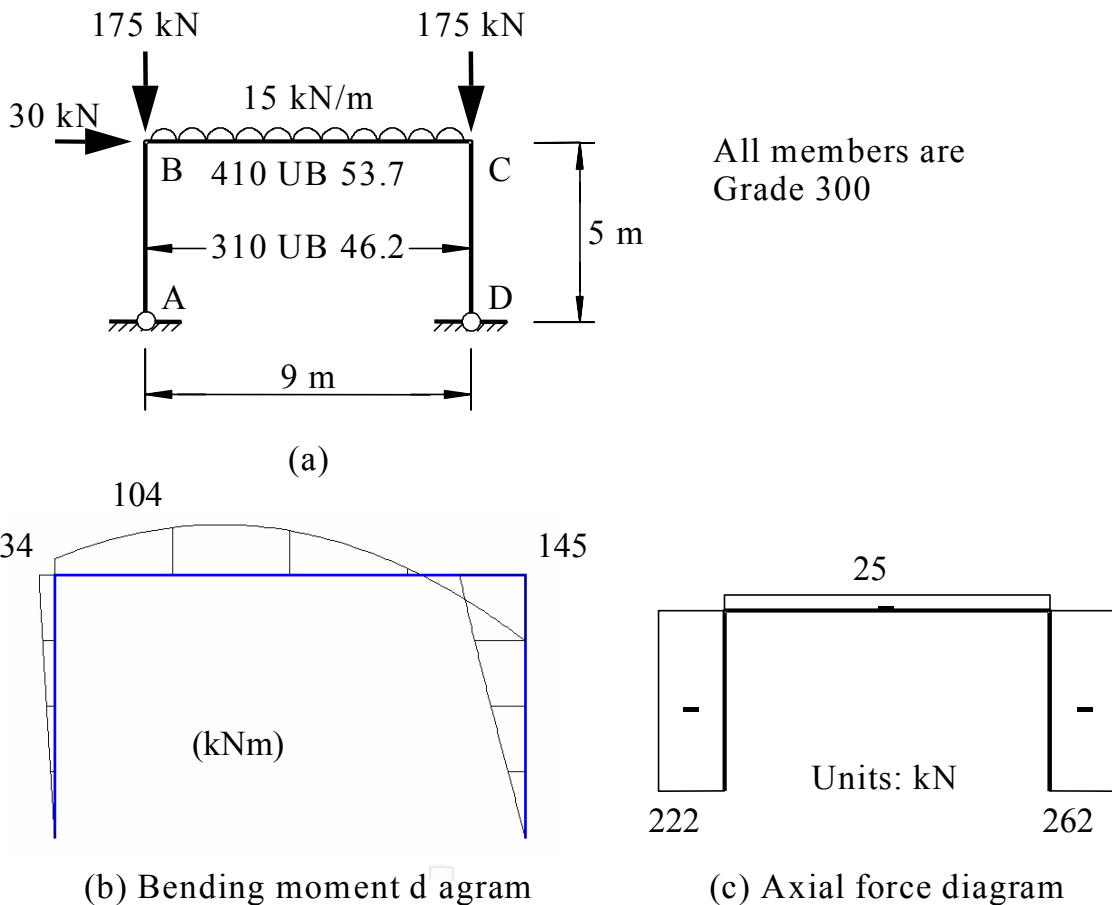

Figure 4
b) A rectangular portal frame ABCD subjected to a design load combination is shown in Figure 4(a). All members are oriented such that the planes of the webs of the section are in the plane of frame shown. The beam column connections are rigid, while the column base plate connections are pinned. The bending moment and axial force diagrams obtained by conducting a *second order elastic analysis* of the frame are shown in Figures 4(b) and 4(c), respectively. Each member of the frame is sufficiently laterally braced such that buckling out of the plane of the frame is prevented.